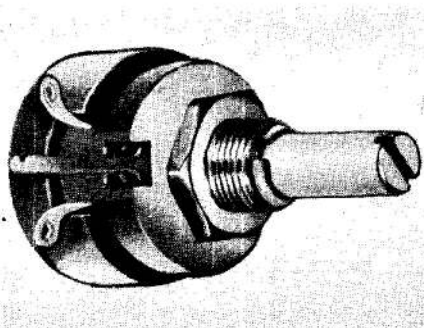

Fig. 1 Potentiometer, Type CLR 1106
2. Typical potentiometers are illustrated in fig. 1 to 4. These potentiometers consist basically of a flat card wound resistance element and a metal contact wiper enclosed within a moulded or metal case. Some units are hermetically sealed.